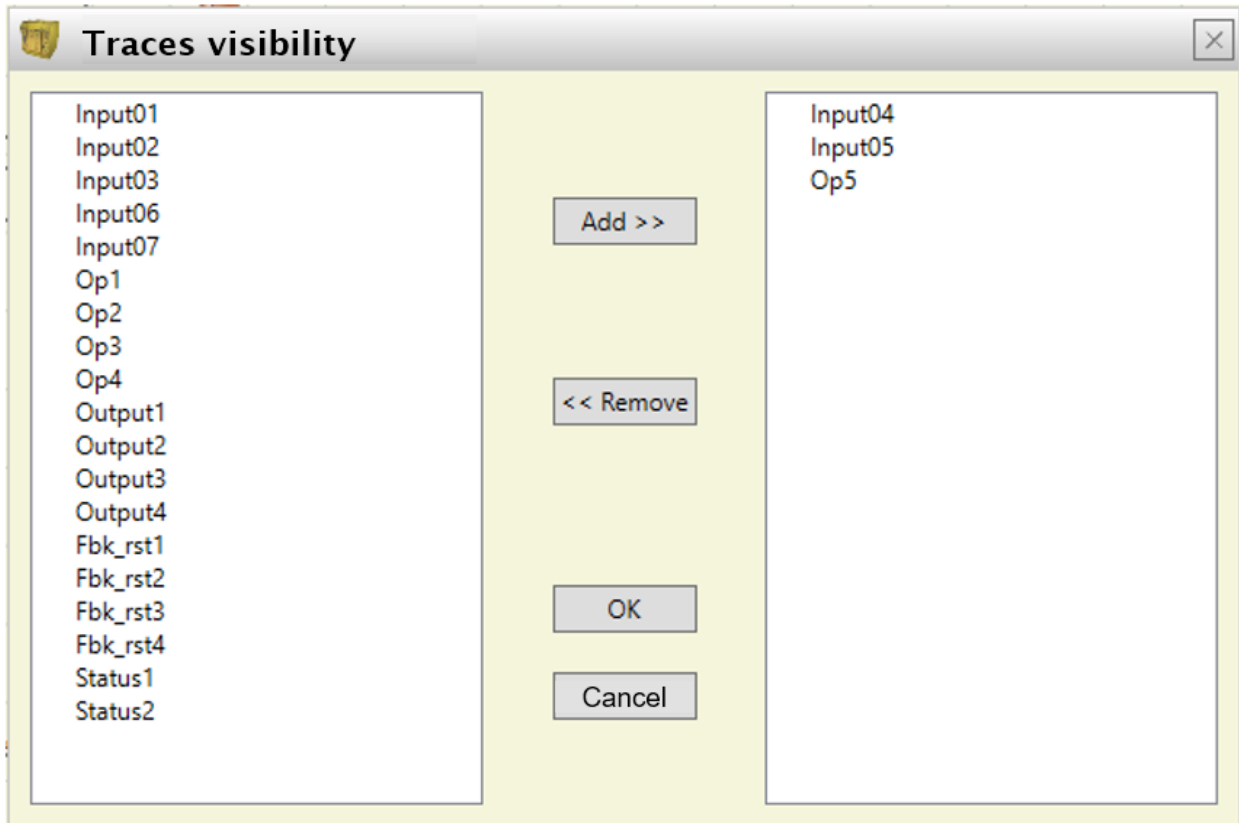

Figure 134 - Traces visibility.
**Traces visibility:** used to select the traces (signal waveforms) to be displayed in the graph. When you press this key, it opens a pop-up window as shown in Figure 134 from which you can add or remove traces to or from the graph.